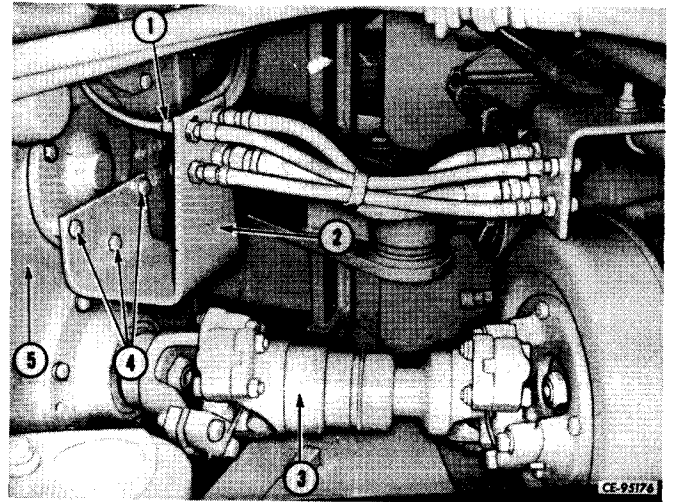

Figure 4-11
Disconnect the transmission to parking brake driveshaft (3, Fig. 4-11) from the transmission (5). Remove the cap screws (4) that attach the hose support (2) to the transmission. Disconnect line (1) from transmission.